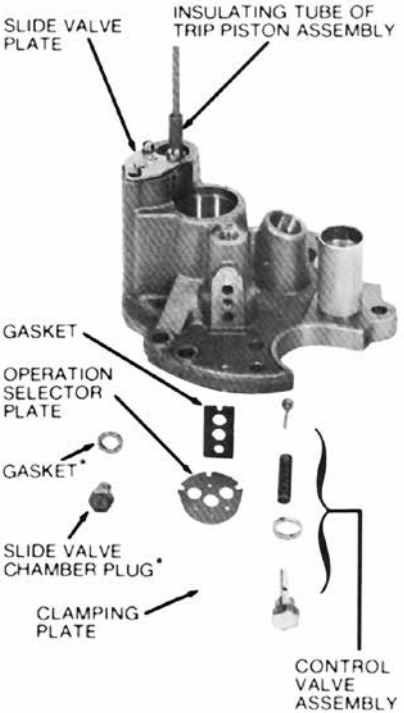

Figure 26. Hydraulic mechanism partially assembled
7. If equipped with the KA127L3 solenoid frame assembly, remove the slide valve chamber plug and gasket by means of a 5/8-in. wrench. Parts removed in steps 5, 6 and 7 are shown in Figure 26.